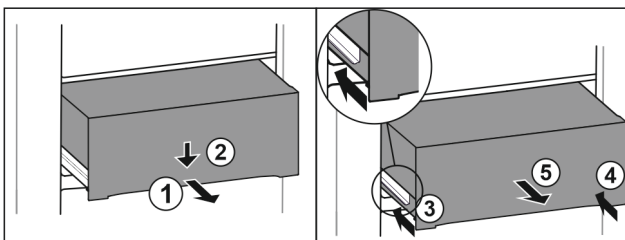

Fig. 155
- ▶ Pull out drawer half-way. Fig. 155 (1)
- ▶ Push the drawer down at the front. Fig. 155 (2)
- ▶ Push the left rail in by about 2 cm. Fig. 155 (3)
- ▶ Push the right rail in by about 2 cm. Fig. 155 (4)
- ▶ Remove drawer to the front. Fig. 155 (5)